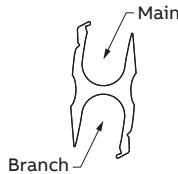

Figure 2
2. Insert the cable(s) into the corresponding openings of the H-Tap, Main and Branch (Figure 2).
3. Secure the cables at either side of the H-Tap by using the Ty-Rap® cable ties enclosed (Figure 2).